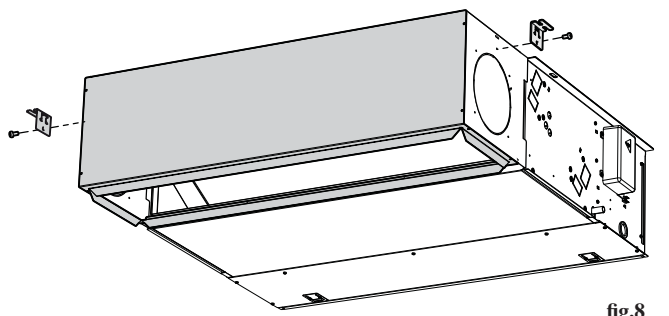

fig.8
- Install the two fixing brackets in the appropriate side slots and fasten them using the two screws provided (fig.8).